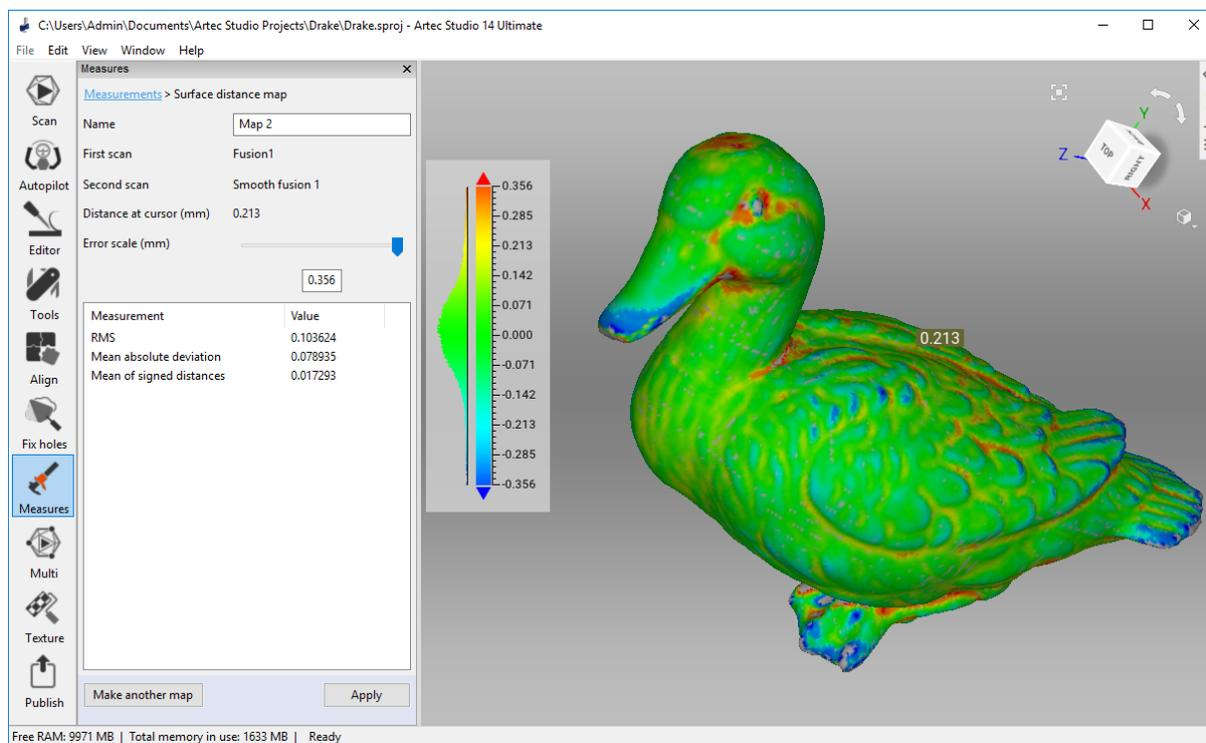

Figure 117: Surface-distance map calculated for two models.
5. Click *Calculate*. Once the process is complete, the distance map will appear in the *3D View* window and the calculation results in the *Measures* panel (see Figure 117).